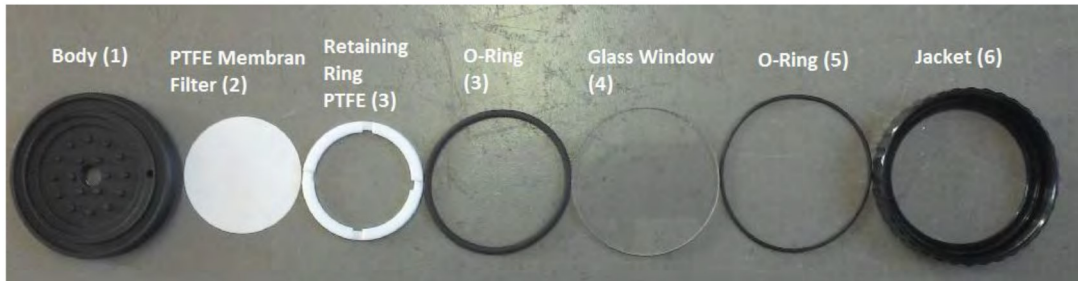

Figure 11.15.: Parts of the Sample Particulate Filter
2. See Figure 11.15 for an exploded view of the filter assembly.